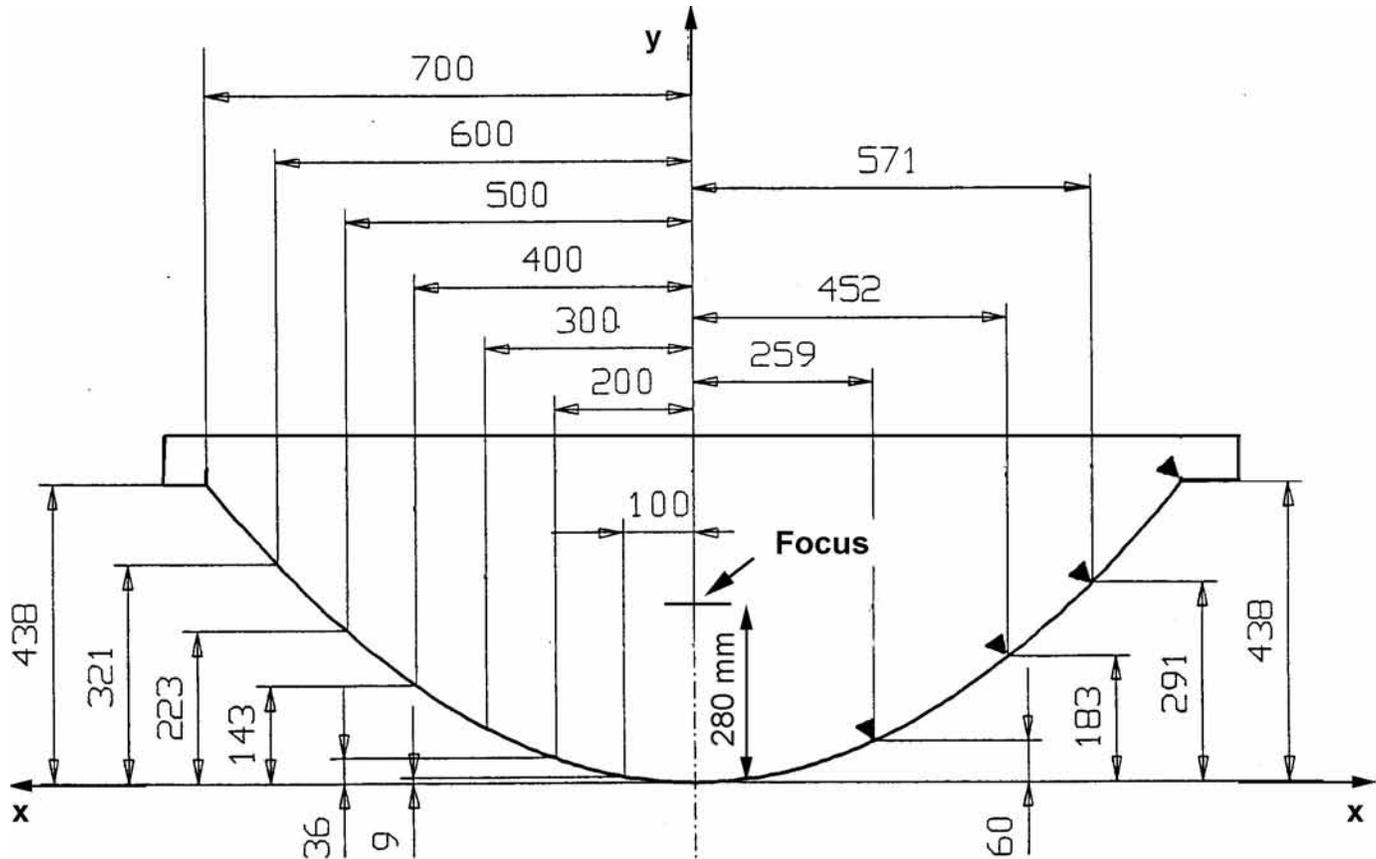

Figure 2: One part of the plate-wood model for the cooker assembly
(see figure 2)
5. Mark the focal point on the y -axis having a distance of 280 mm from the base line by a little line and cut along the parabolic line with a jig-saw (so that the line just stays visible on the model). The model should look then like on figure 2.
6. Repeat the whole procedure for the second piece of plate-wood to have two identical pieces like on figure 2